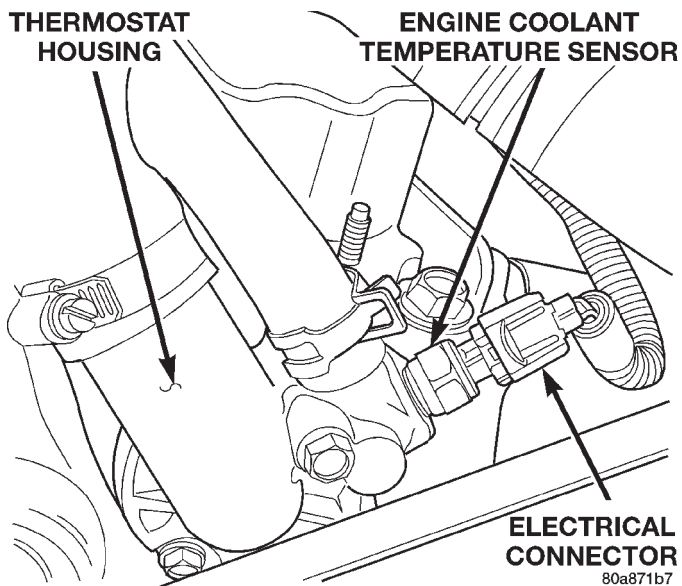

Fig. 32 Engine Coolant Temperature Sensor—Typical
(1) Disconnect wire harness connector from coolant temperature sensor (Fig. 32).